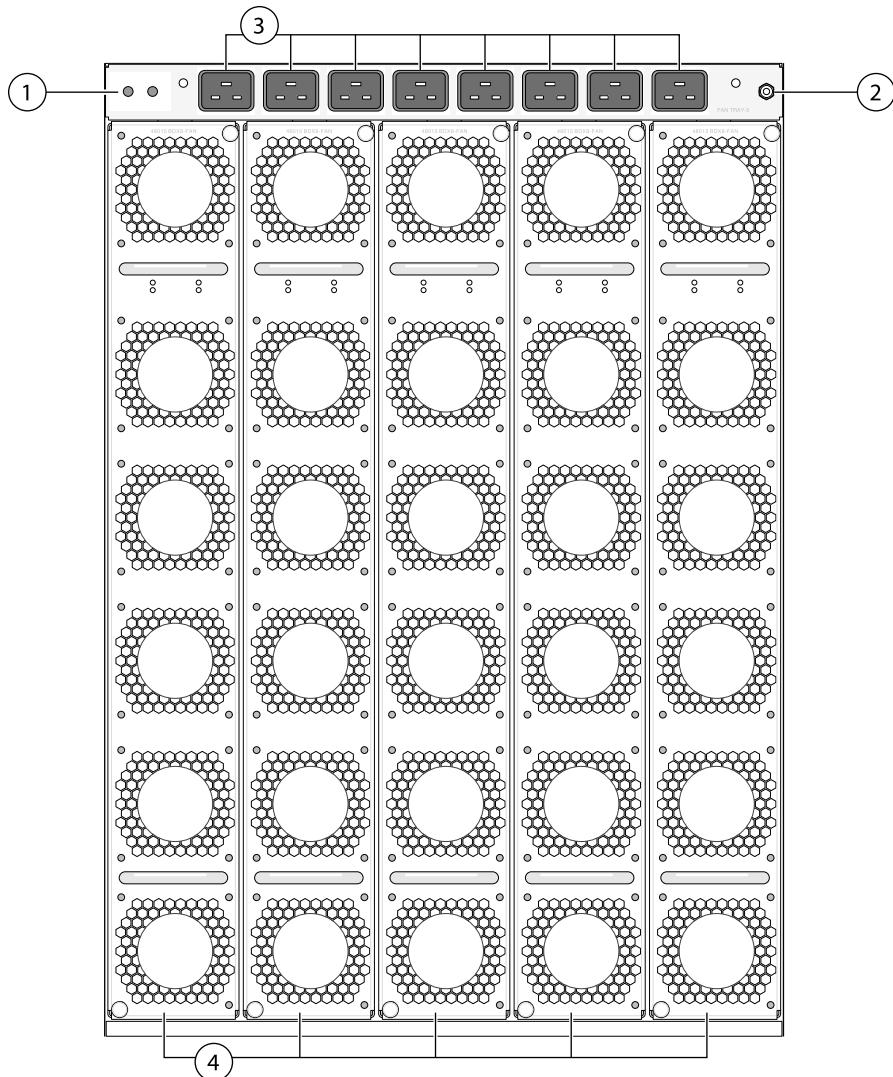

Figure 2: Back of the BlackDiamond X Series chassis
- Attachment point for optional chassis ground ("1" in the Figure 2: Back of the BlackDiamond X Series chassis on page 11)